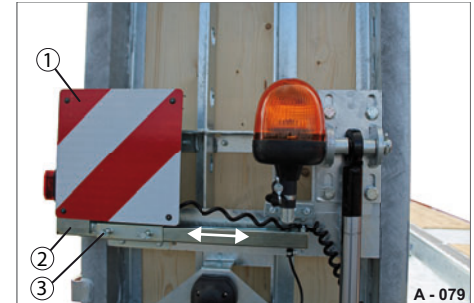

Fig. 95 Warning panel at rear
- ▶ Loosen the wing nuts (Fig. 95/3).
- ▶ Position the rod (Fig. 95/2) with the warning panel (Fig. 95/1) to the required position.
- ▶ Tighten the wing nuts (Fig. 95/3).